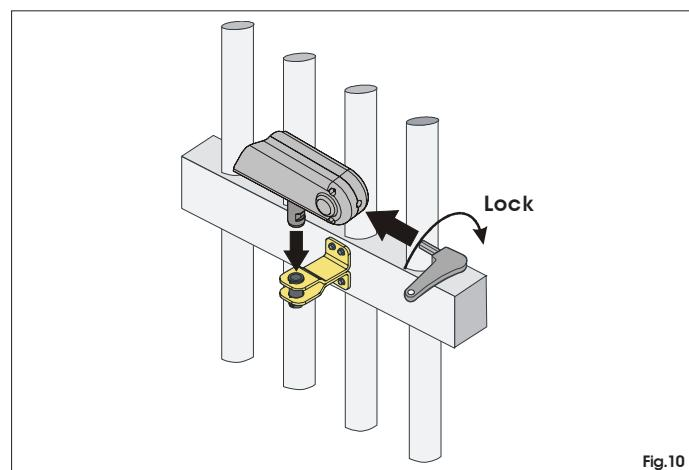

Fig.10
Fasten the operator to the front fitting as shown in Fig. 10 and turn the release key clockwise to the closing stop position.
- Re-position the operator on the front fitting (Fig. 10);